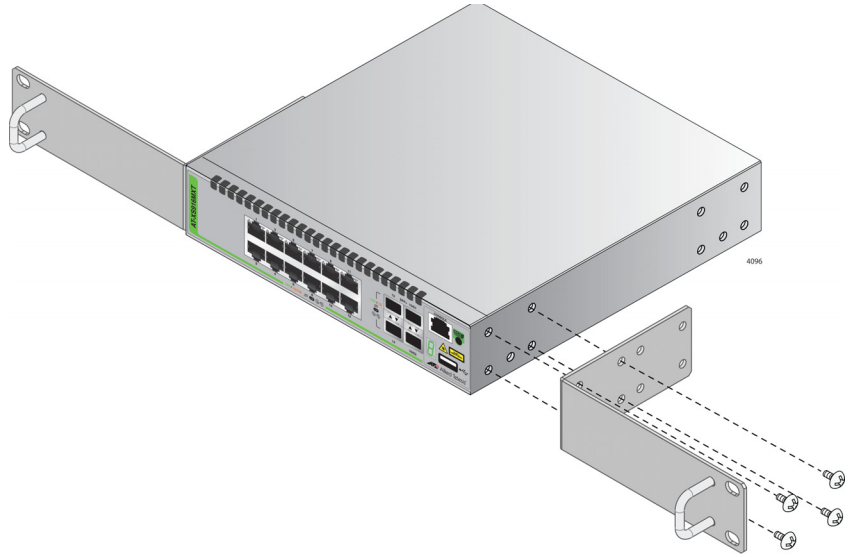

Figure 18. Installing the Brackets on the Switch
6. Attach the two rack mount brackets to the sides of the switch with the eight bracket screws as shown in Figure 18.